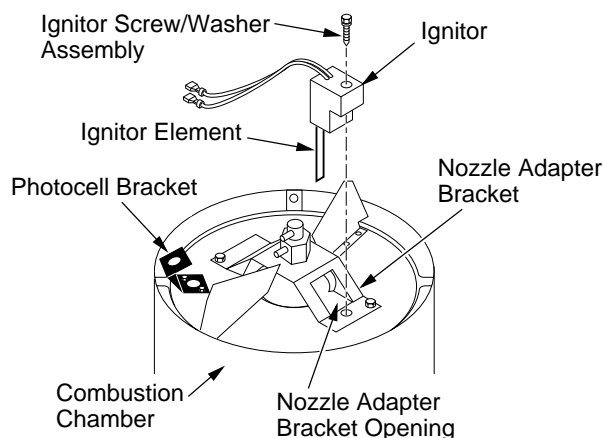

Figure 18 - Ignitor Replacement
6. Remove combustion chamber. Stand combustion chamber on end with nozzle adapter bracket on top (see Figure 18).
9. Carefully guide ignitor into opening in nozzle adapter bracket. Do not strike ignitor element. Attach ignitor to nozzle adapter bracket with screw using a 1/4" nut driver (see Figure 18). Torque 8 to 15 in. lbs. Do not over torque.